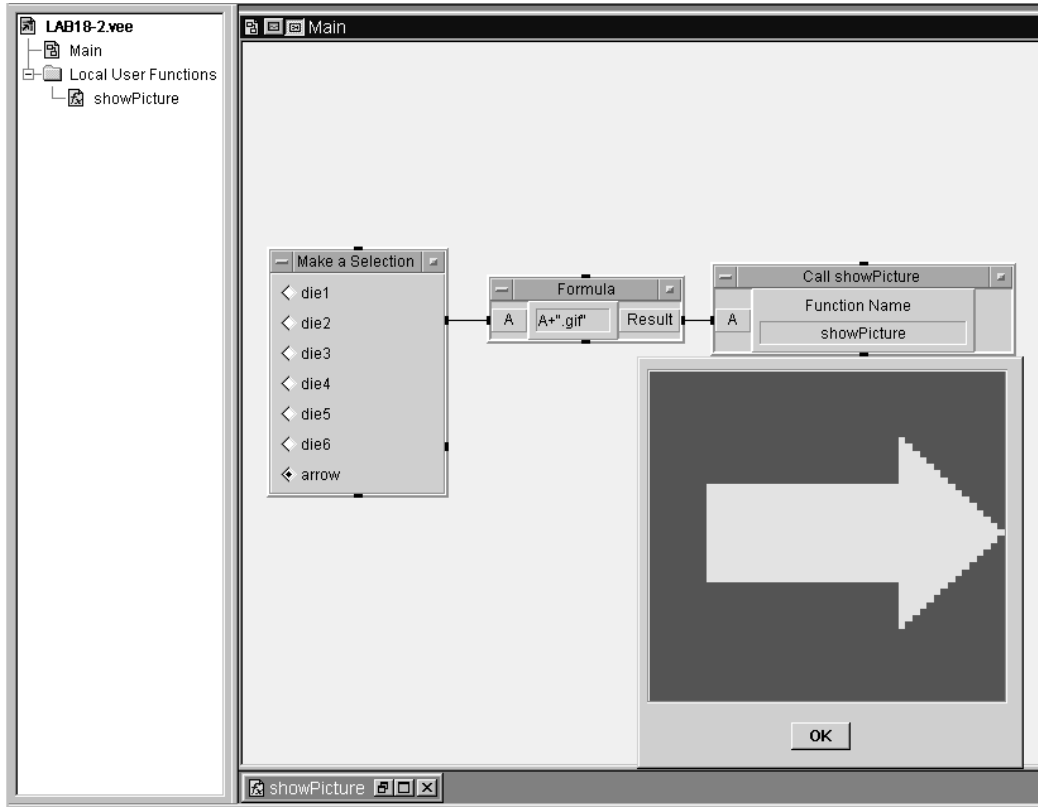

Figure 18.14. LAB 18.2 after running
10. Save this program and run this program. See Figure 18.14.